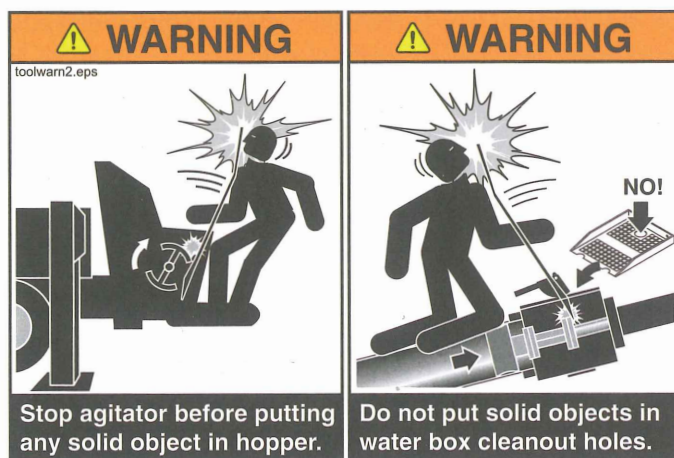

Figure 28
- 8.4 **⚠ WARNING** Never put a bar or other solid tool into the hopper, water box, or other working system while the hydraulics are operational (Figure 28).